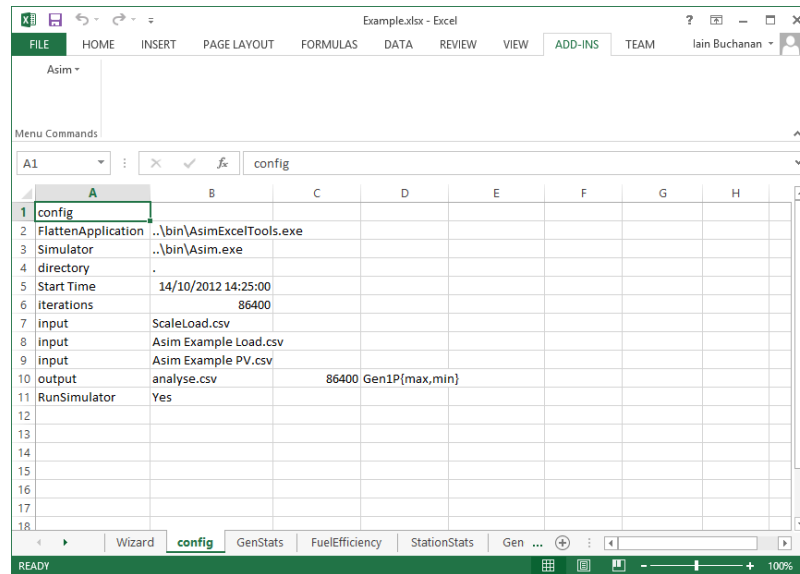

Figure 13: Example spreadsheet
- Insert or edit the remaining input options for *Asim Example Load.csv* and *Asim Example PV.csv*. The Example.xls config worksheet should now look like Figure 13.